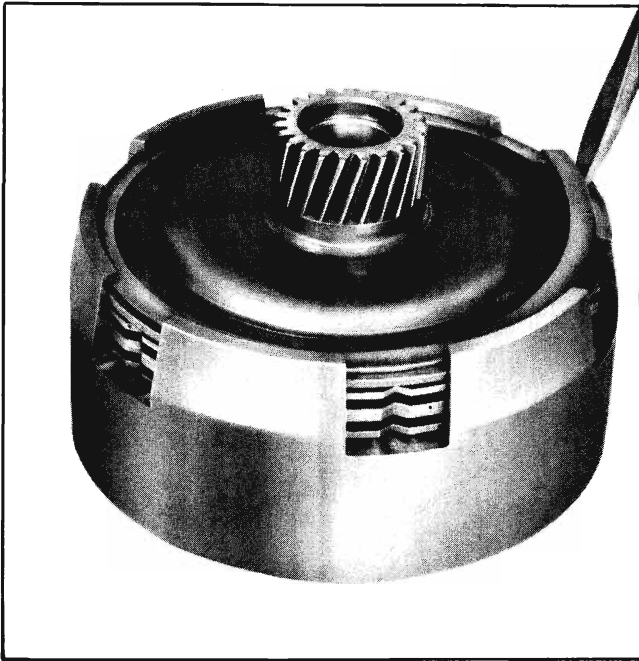

Fig. 7A-50 Removing Clutch Drum Retainer Ring
5. Compress springs using as illustrated in Fig. 7A-43.